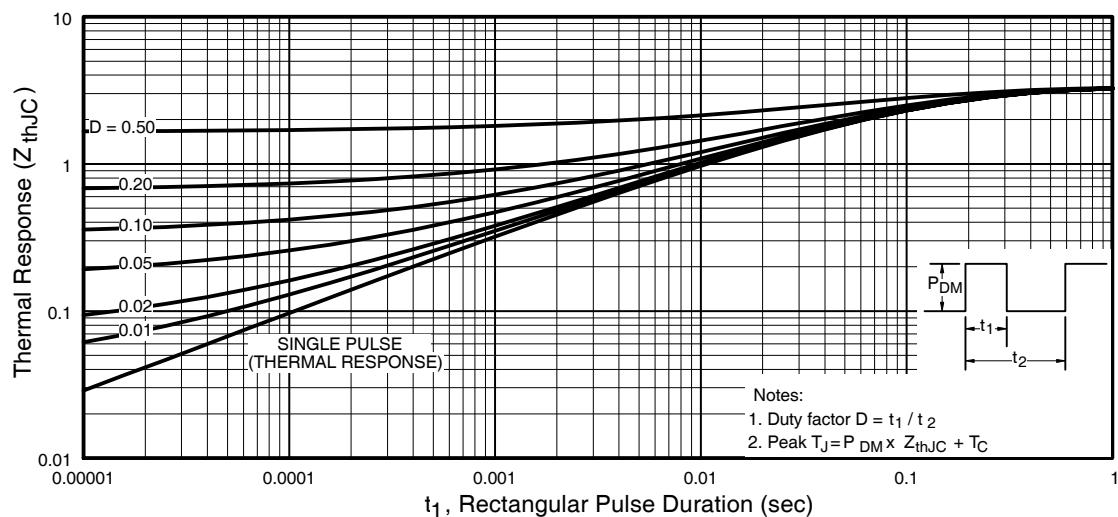

Fig 11. Maximum Effective Transient Thermal Impedance, Junction-to-Case
- ① Repetitive rating; pulse width limited by max. junction temperature. (See fig. 11)
- ② $V_{DD} = 25V$, starting $T_J = 25^\circ\text{C}$, $L = 470\mu\text{H}$